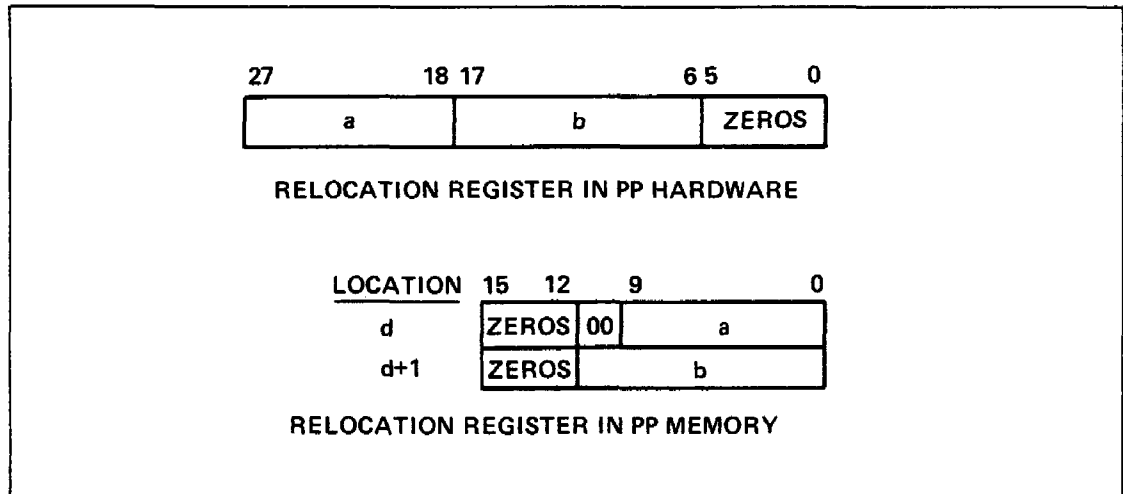

Figure 4-4. PP Relocation (R) Register Format
Figure 4-4 shows PP relocation (R) register format. This register is loaded-from/stored-into PP memory by instructions 24 and 25 (load/store R register).
Figure 4-4 shows R register format. If d is not equal to 0, this instruction loads the upper 10 bits of the R register (bits 18-27) from the rightmost 10 bits of PP memory location d. The 12 bits contained in PP memory location d plus 1 are loaded into the next 12 bits of the R register (bits 6 through 17). If d equals 0, the instruction is a pass.
Figure 4-4 shows R register format. If d is not equal to 0, this instruction stores the upper 10 bits of the R register (bits 18 through 27) into the rightmost 10 bits of PP memory location d. The 12 bits contained in PP memory location d plus 1 are stored into the next 12 bits of the R register (bits 6 through 17). If d equals 0, the instruction is a pass.